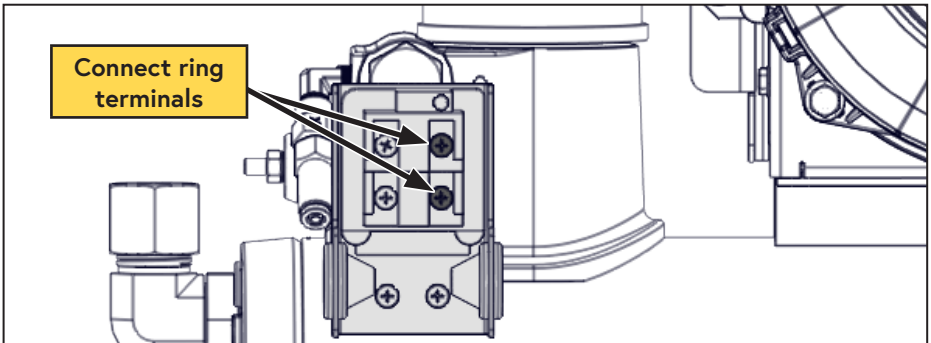

Figure 37 — Connect pressure switch
- Replace the cover when finished(Figure 37).